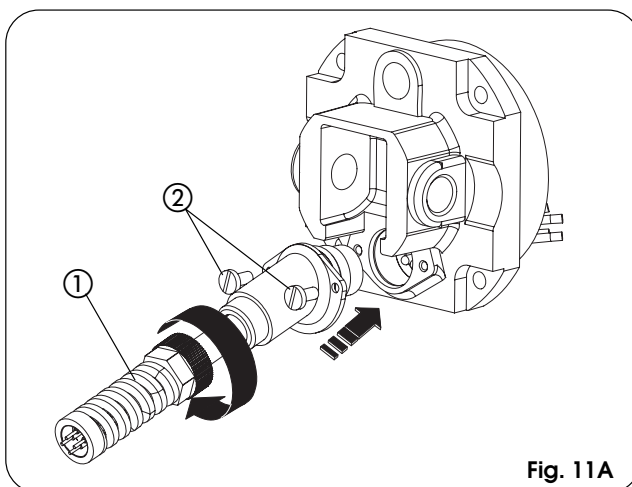

Fig. 11A
- A) Insert the two anti-vibration spacers ② onto the front flange.
- B) Introduce the housing, pressing it firmly on the rear cover ①.
- C) Secure the housing with the self-tapping screw ③.
- D) Fit the front cover ⑤ on the housing and fasten it with FIX plug ④.
- 12) Fit the electric cable bend guard (ref. ①, Fig. 11A).
- Connect the power cable of the operator (Fig.11A).
- Fasten the screws (ref. ②, Fig. 11A).